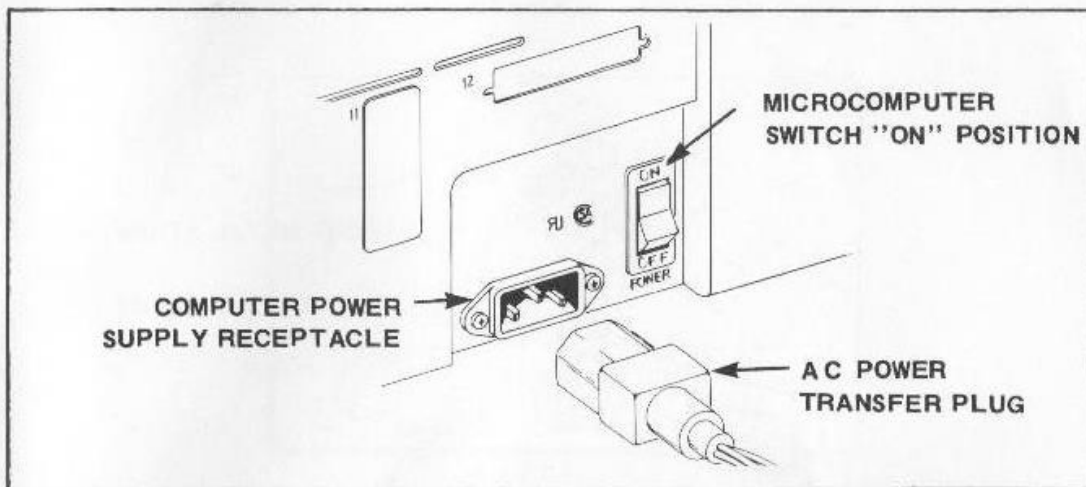

FIGURE 7
- (7) On the right side of the Backpack is the AC power transfer plug. Insert it into the receptacle designated "Computer Power Supply". Take care to seat it firmly. Turn the Microcomputer switch (far right side) to the "ON" position (Figure 7).
- (8) Carefully place the Backpack next to the computer rear panel.